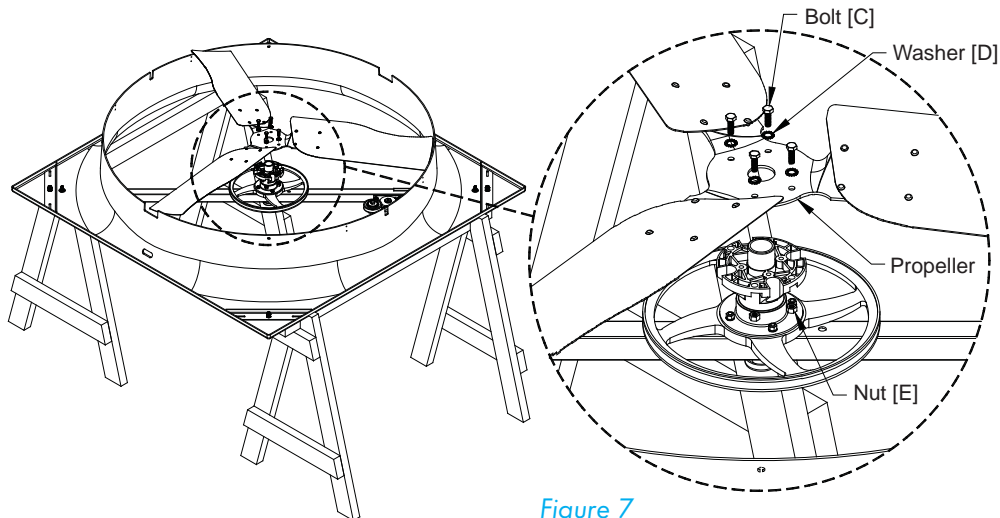

Figure 7
Attach Propeller to Hub Assembly using (4) Bolts [C], Washers [D] and Nuts [E] and tighten to 22 Nm. See Figure 7.